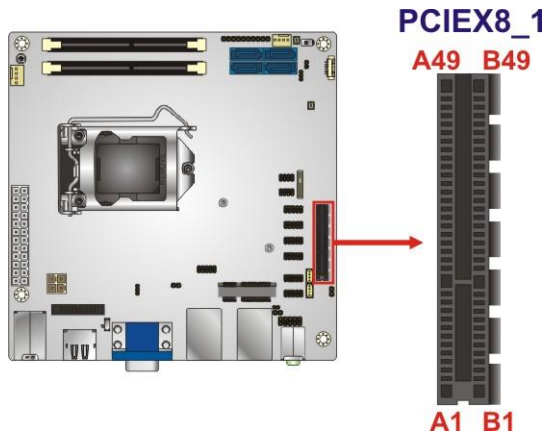

Figure 3-17: PCIe x8 Slot Location
- CN Location:** **See Figure 3-17**